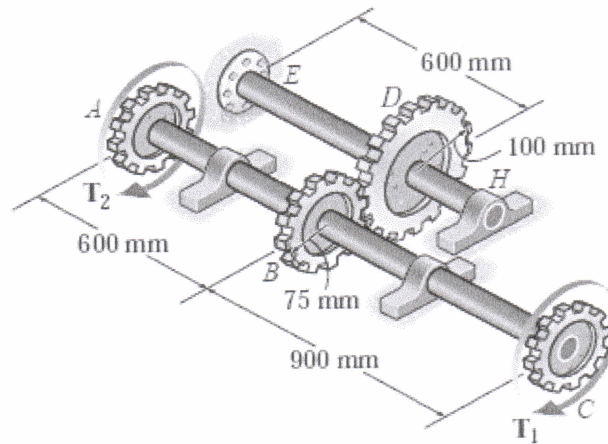

Figure Q6
- Q6.** The 60-mm diameter shaft *ABC* shown in **Figure Q6** is supported by two journal bearings, while the 80-mm diameter shaft *EH* is fixed at *E* and supported by a journal bearing at *H*. If  $T_1 = 2 \text{ kNm}$  and  $T_2 = 4 \text{ kNm}$ , determine the angle of twist of gears *A* and *C*. The shafts are made of A-36 steel. Given  $G_{\text{steel}} = 75 \text{ GPa}$ . (20 marks)